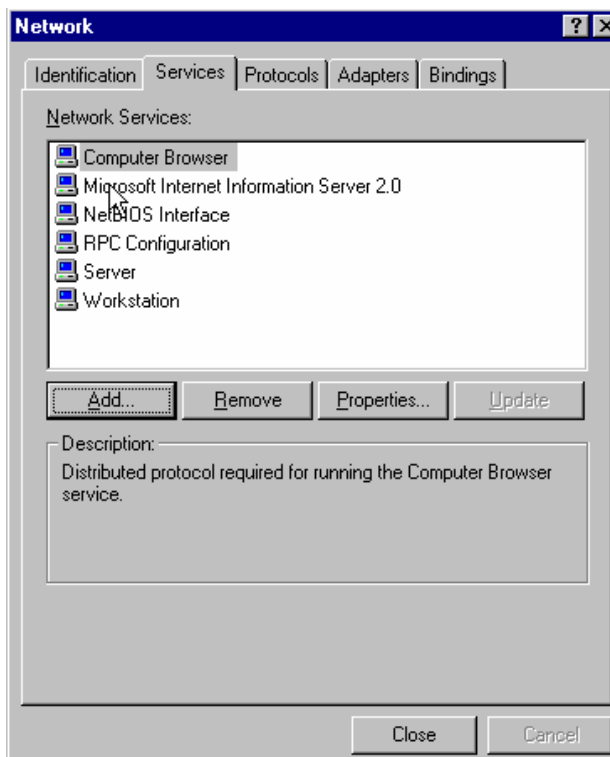

Figure 2.1. Network Dialog Box: Services Tab
1. To install IIS in Windows NT, click on **Network Neighborhood** on your computer's desktop. The **Network** dialog box will appear, as shown below in **Figure 2.1**. On the **Network** dialog box, click the **Services** tab and then click the **Add** button.